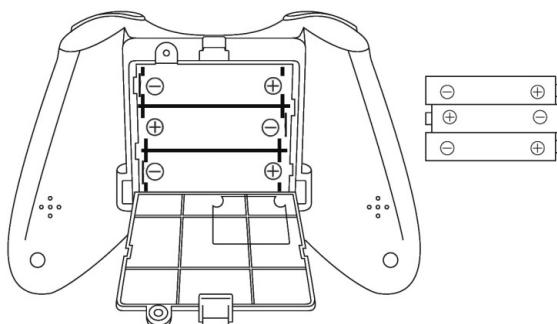

Fig 3
3. Install or replace the batteries by three (3) AA size batteries (not included) into the battery compartment as the polarity markings in it as Fig 3. (Alkaline batteries are recommend for longest playing time).